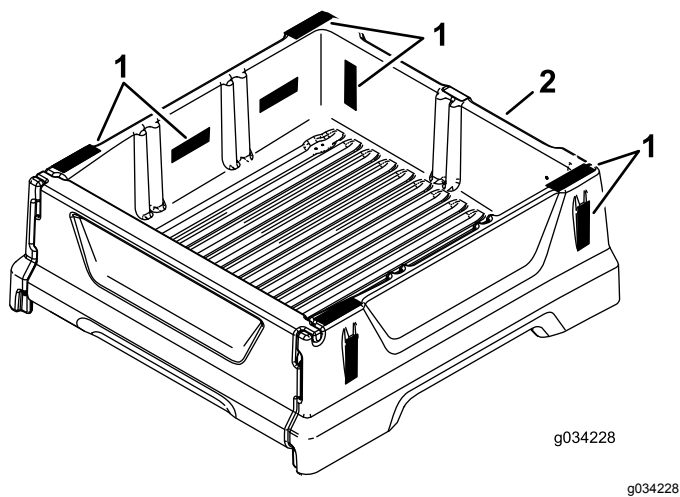
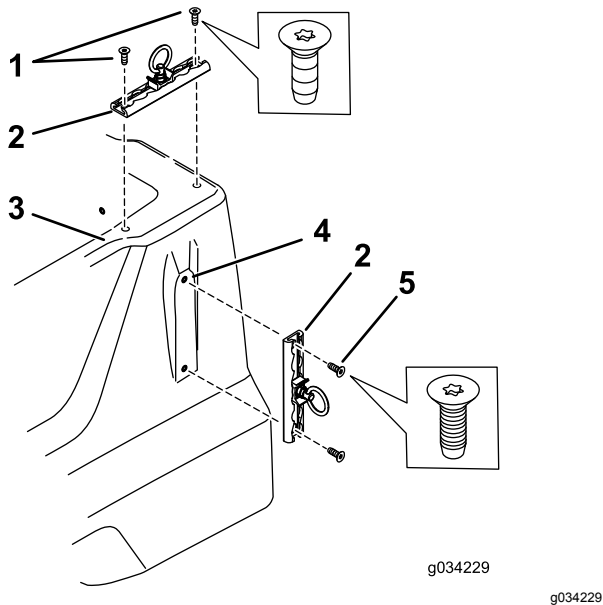

Figure 2
Figure 3
1. Attach the bracket in the locations shown in Figure 2 using 2 screws (Figure 3).